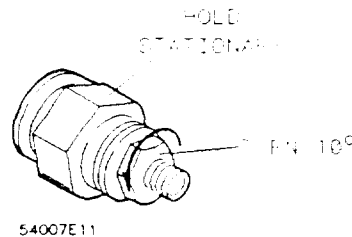

Figure B-11. Counter-Rotation Technique
3. When you are satisfied with this preliminary connection, use the following counter-rotation technique to eliminate air wedges between the mating planes. Refer to figure B-11. If the calibration device is male, hold the connector nut firmly. Very slowly rotate the body of the device about 10-20° counterclockwise. Note that this slight rotation or backwiping is sufficient. Greater rotation does not improve electrical performance and increases wear on the connector surfaces. If the calibration device is female (the connector nut is on the test set), very slowly rotate both the connector nut and the body of the device clockwise 10-20° (counterclockwise rotation will loosen the connection).